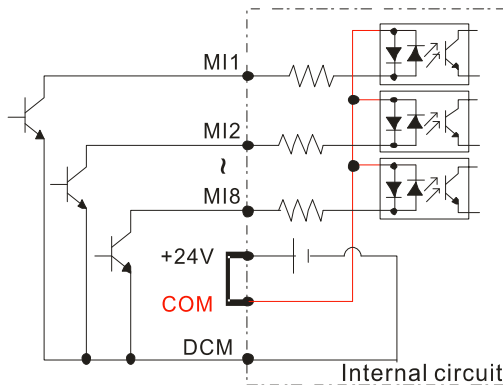
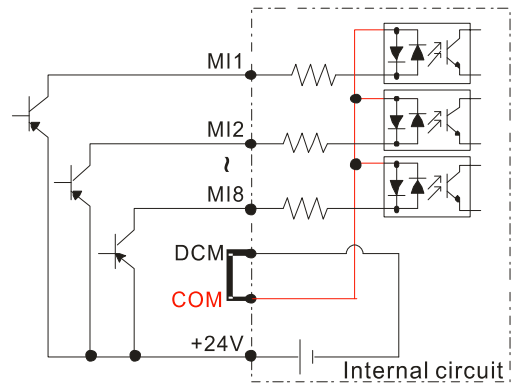

Figure 6-2
Figure 6-3
- When the photo-coupler uses the internal power supply, the switch connection for Sink and Source modes shows as Figure 6-2 and Figure 6-3: